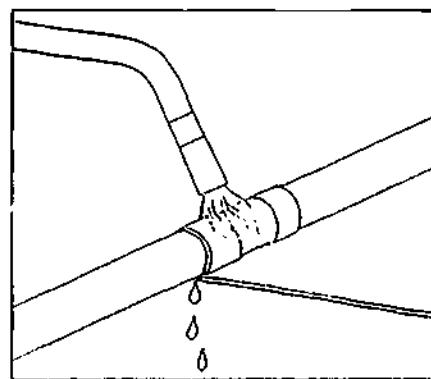

Figure 3-1. TurboTorch in Use
c) In 1967, after much research utilizing knowledge gained from development of the gas-turbine engine, Wingaersheek introduced its TurboTorch (Figure 3-1), the first swirl-combustion torch and the first propane torch to use primary swirl combustion.
d) TurboTorch acetylene has proven capabilities of soldering copper tubing with water in the line, and of bronze brazing cast iron pipe fittings in the field. Figure 3-1 shows soldering, or unsoldering, with water in the line.